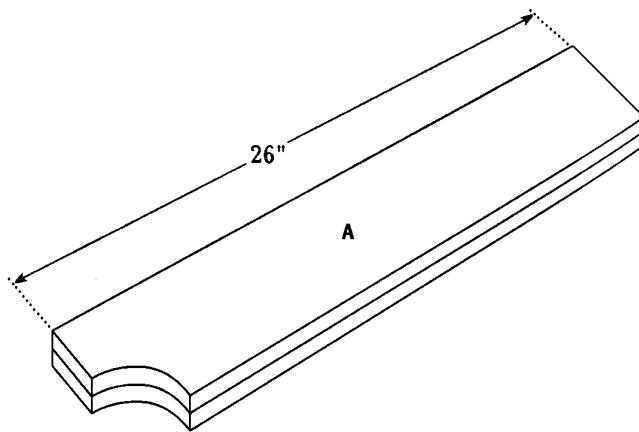

Figure 1
1. Cut two Rack Sides (A) from 1 x 6 pine, each measuring 26 inches.
2. Using *Figure 1* as a guide, clamp both Rack Sides (A) together to hold them while cutting out a quarter-circle from the ends of the Rack Sides (A).